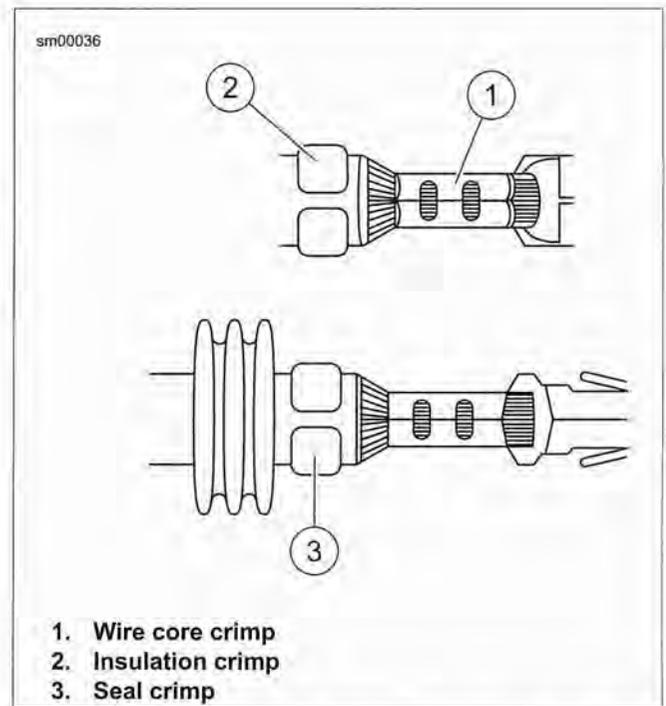

Figure A-14. Metri-Pack Connector: Inspect Core and Insulation/Seal Crimps
1. See Figure A-14. Identify the correct die for the insulation/seal crimp (2).
1. See Figure A-14. Inspect the wire core crimp (1). The tails should be folded in on the wire core without any distortion or excess wire strands.
2. Inspect the insulation (2) or seal (3) crimp. The tails of the terminal should be wrapped around the insulation without distortion.